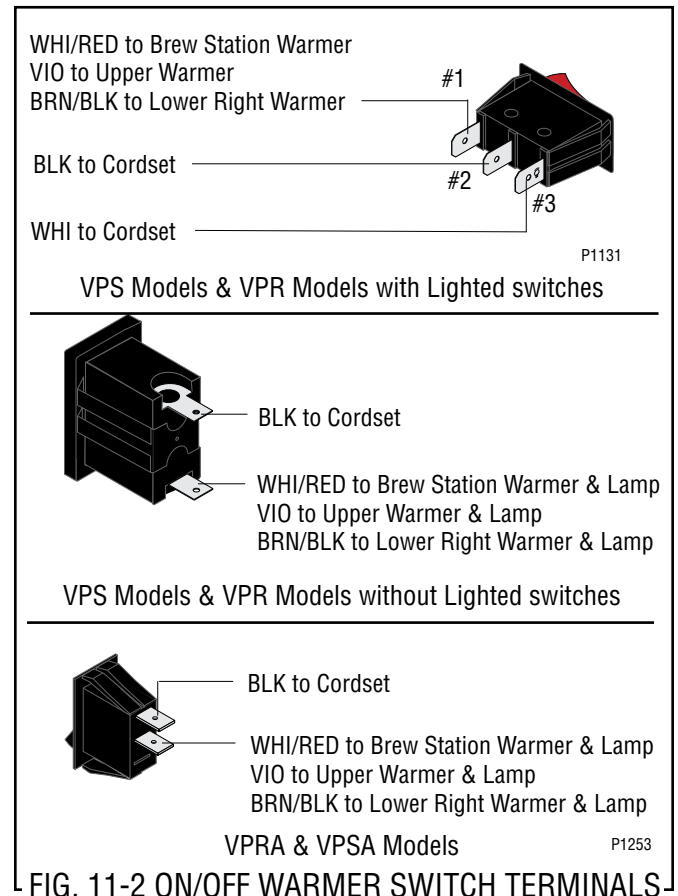

FIG. 11-2 ON/OFF WARMER SWITCH TERMINALS
4. Refer to Fig. 11-2 when reconnecting the wires